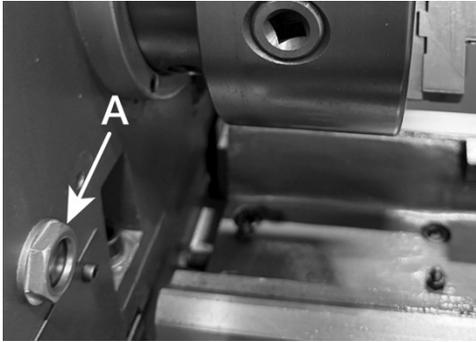
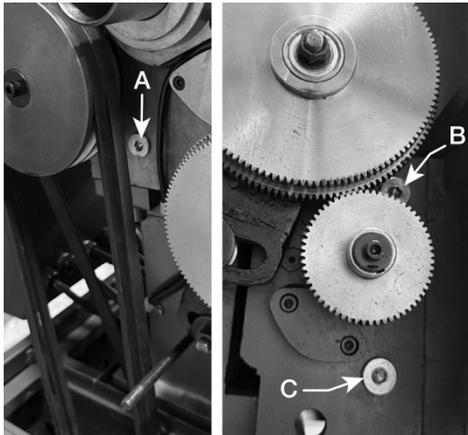
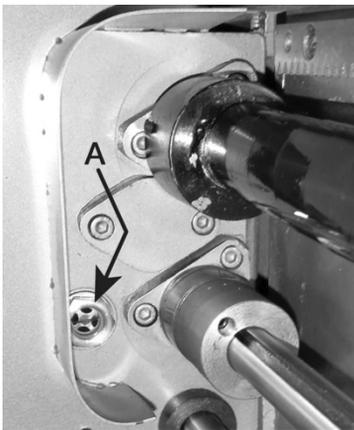

Figure 8-1: Headstock Oil Level Sight Glass
Figure 8-2
Figure 8-3
1. **Headstock** – The bearings of the headstock turn in an oil bath. Oil must reach three-quarters of oil level sight glass (see Figure 8-1). Top off with Mobil DTE® Oil Heavy Medium. Fill by removing headstock cover. Drain oil by removing drain plug (A, Figure 8-2). Check oil level regularly. Make the first oil change after one month of operation. Clean out any metal shavings. Then, change oil in the headstock every two months.
2. **External Gears** - Coat all gears with a heavy, non-slinging grease, see Figure 8-2.
3. **Gear Shaft** - Remove the set screw (C, Figure 8-2) and oil with a couple drops of Mobil DTE® Oil Heavy Medium once weekly.
4. **Gearbox** - Oil must be up to indicator mark in oil level sight glass (A, Figure 8-3). Remove the oil filling plug (B, Figure 8-2). Top off with Mobil DTE® Oil Heavy Medium. Drain oil by removing drain plug (C, Figure 8-2). Make the